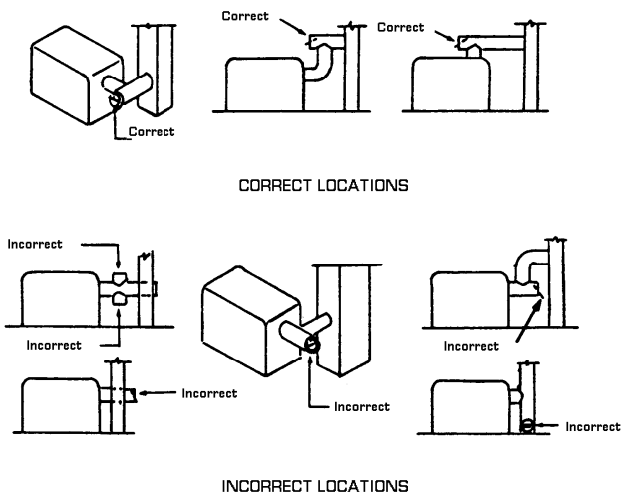

FIGURE 4 Location for Barometric Draft Regulators
□ Gas utilization equipment requiring controlled draft may be equipped with a listed double acting barometric draft regulator, If approved by local codes (see Figure 4).